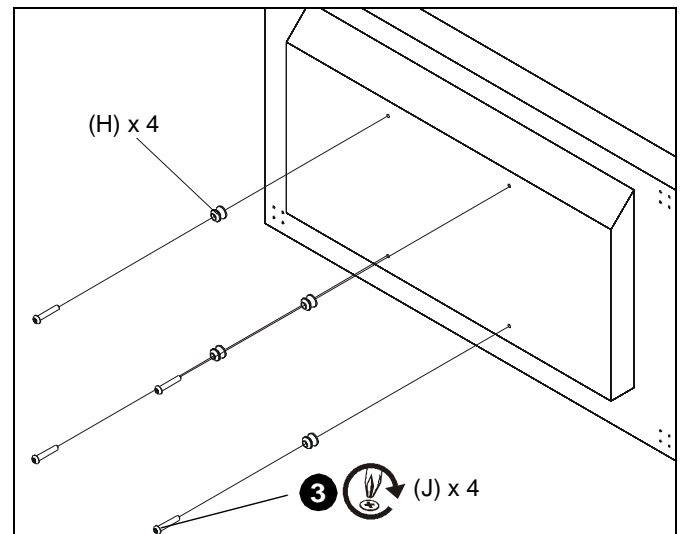

Figure 6
1. Use four M6 x 25mm Phillips pan machine screws (J) to attach four mounting buttons (H) to center holes on back of display. (See Figure 6)